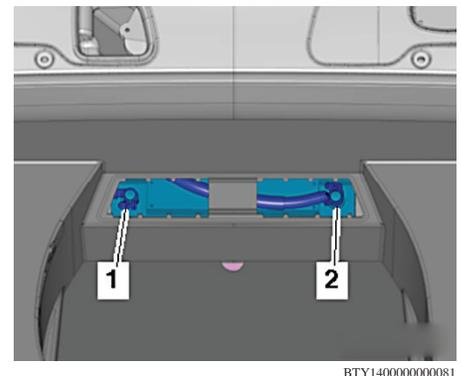

Fig. 2 Ground cable terminal clamp removal
6. Loosen nut several turns and remove ground cable terminal clamp (arrow) from battery terminal, **Fig. 2**.